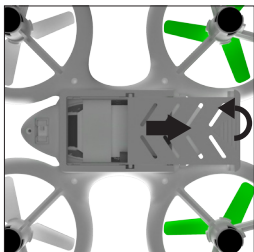

FIGURE 1
1. Open the battery cover by sliding the cover over and lifting up (Fig. 1).
Make sure the drone power switch is in the "OFF" position. Open the battery cover (Fig. 1) and disconnect the wire of the battery from the receiver wire.